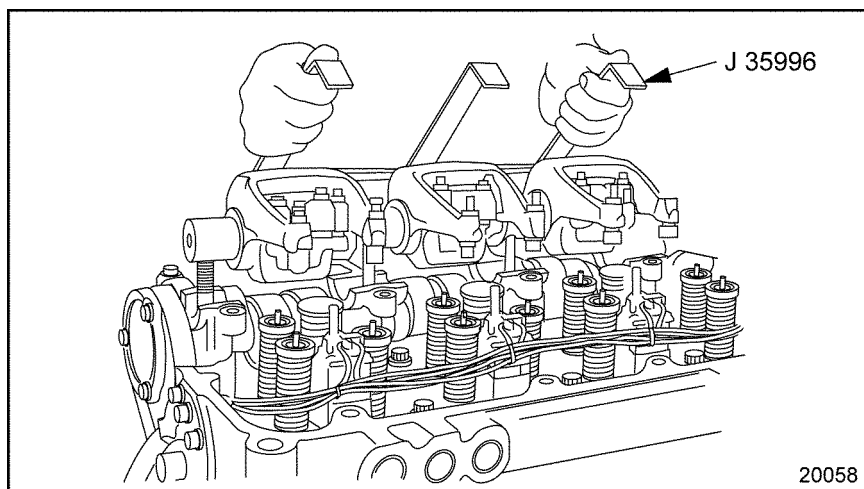

Figure 13-2 Rocker Arm/Shaft Assembly Removal/Installation
7. Remove all the rocker shaft mounting bolts and nut from the front or rear rocker shaft assembly. Using rocker arm lifter (J-35996-A), see Figure 13-2, lift the assembly straight up and off of the head and place in a clean area on the bench.